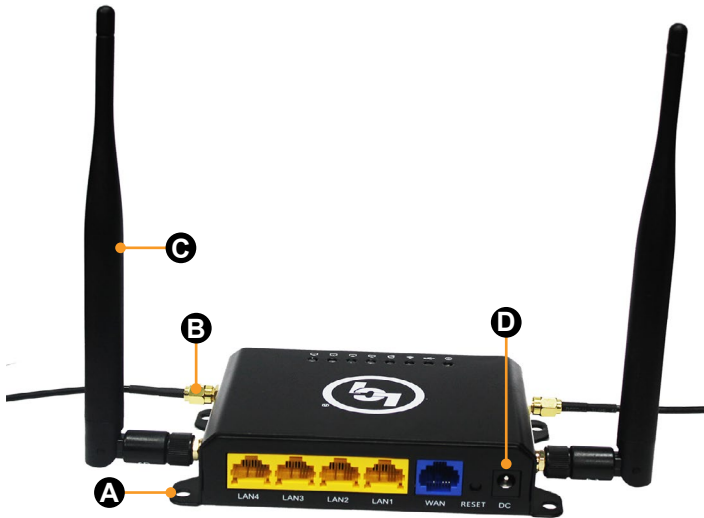

Fig.7
4. If desired, secure the cellular gateway (Fig.7) to a permanent mounting surface by installing four #8 x 3/4" stainless steel pan head screws through the provided holes in the cellular gateway (Fig.7A) and into a permanent mounting surface.